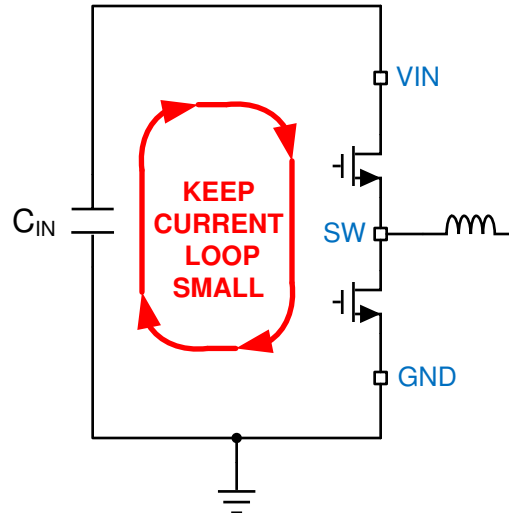
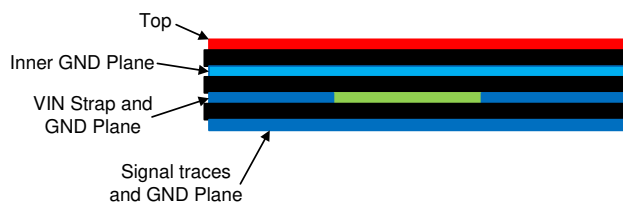

Figure 10-1. Current Loops with Fast Edges
Figure 10-3. Example Layout for VQFN Package
The PCB layout of any DC/DC converter is critical to the optimal performance of the design. Bad PCB layout can disrupt the operation of an otherwise good schematic design. Even if the converter regulates correctly, bad PCB layout can mean the difference between a robust design and one that cannot be mass produced. Furthermore, the EMI performance of the regulator is dependent on the PCB layout, to a great extent. In a buck converter, the most critical PCB feature is the loop formed by the input capacitor or input capacitors, and power ground, as shown in Figure 10-1. This loop carries large transient currents that can cause large transient voltages when reacting with the trace inductance. These unwanted transient voltages will disrupt the proper operation of the converter. Because of this, the traces in this loop must be wide and short, and the loop area as small as possible to reduce the parasitic inductance. Figure 10-2 and Figure 10-3 show recommended layouts for the critical components of the LMR33620.
1. **Place the input capacitor or capacitors as close as possible to the VIN and GND terminals.** VIN and GND pins are adjacent, simplifying the input capacitor placement. With the VQFN package there are two VIN/PGND pairs on either side of the package. This provides for a symmetrical layout and helps minimize switching noise and EMI generation. A wide VIN plane must be used on a lower layer to connect both of the VIN pairs together to the input supply; see Figure 10-3.